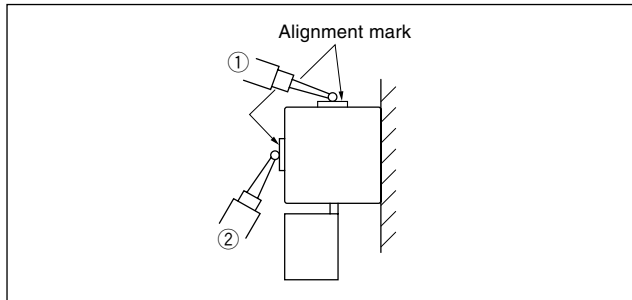

Fig. 3-7 Parallelness check of scale and machine table movement
(4) Measuring parallelism of scale with machine table movement
Place a dial gauge directly where the alignment mark (Fig. 3-7 ① in the figure below) is positioned on the side of the scale, and check that the scale is surely mounted parallel to the machine table movement.
(5) When the specified parallelism for the scale mounting bracket is not obtained
Insert spacers below the feet and make adjustment by placing a dial gauge at ② in Fig. 3-7 to adjust the parallelism to within 0.15 mm (0.006") throughout the length between may be obtained at the alignment marks. For scales equipped with a center foot plate (effective length 1,250 to 1,600 mm (49.21 to 62.99 inch)), make sure that the parallelism near the center foot plate is also within 0.15 mm (0.006").